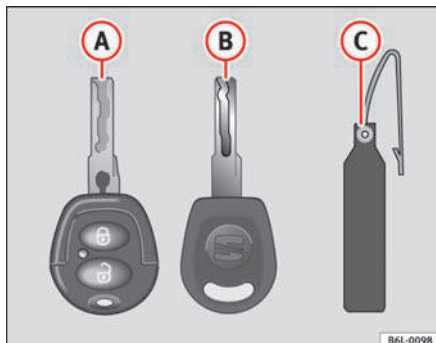

Fig. 46 Set of keys
- one remote control key ⇒ fig. 46 A with folding key bit\*,
Spare keys cannot be issued without the key number on the key tab ⇒ fig. 46 B. Therefore: